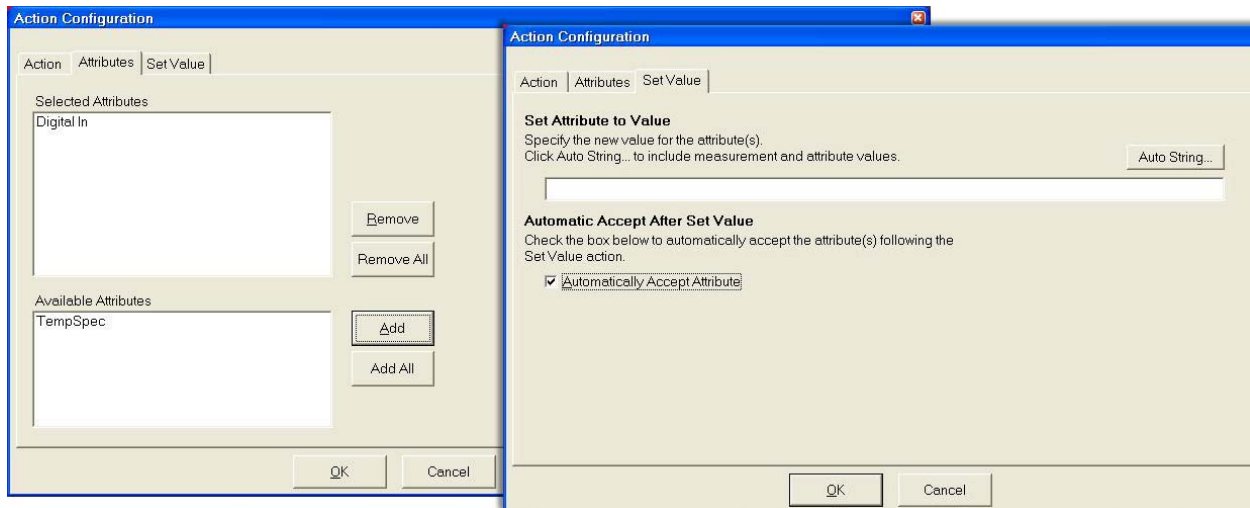

Figure 37. Attributes and Set Value tabs of the Action Configuration panel.
- 2.1 Name the action DInAssignFlaw (*Part 1 in Figure 37*).